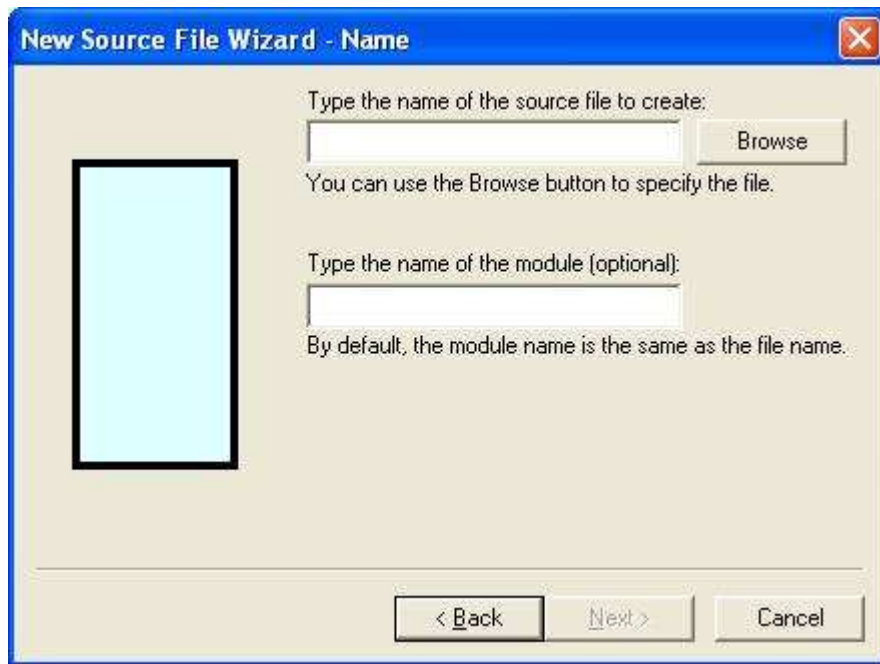

Figure 4
3. In the “Type the name of the source file to create” field, enter the name of your verilog file using a **descriptive** name. You must try to keep them distinct so as not to confuse both you and the tool. Do not use the same name that you named your design or workspace. Also, **do not fill in the name of the module**; leave this field blank. Active-HDL will use the source files name for the module by default. This just makes it easier for everyone to keeps things straight. Click the Next button (Figure 4).